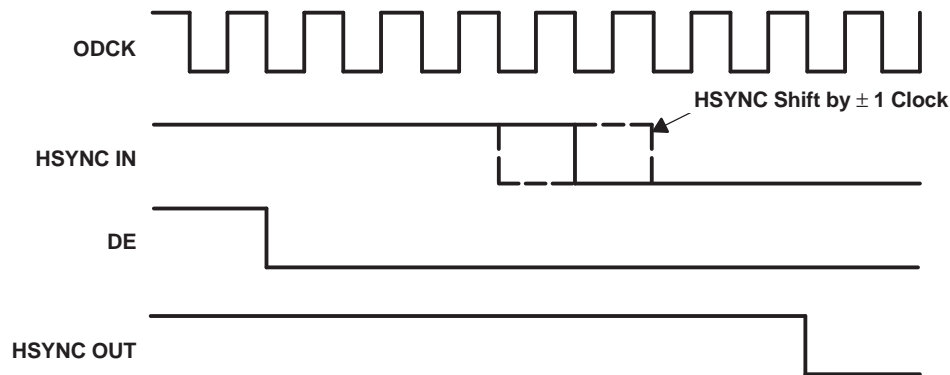

Figure 16. HSYNC Regeneration Timing Diagram
The TFP401A integrates HSYNC regeneration circuitry that provides a seamless interface to these noncompliant transmitters. The position of the data enable (DE) signal is always fixed in relation to data, irrespective of the location of HSYNC. The TFP401A receiver uses the DE and clock signals recreate stable vertical and horizontal sync signals. The circuit filters the HSYNC output of the receiver, and HSYNC is shifted to the nearest eighth bit boundary, producing a stable output with respect to data, as shown in Figure 16. This will ensure accurate data synchronization at the input of the display timing controller.